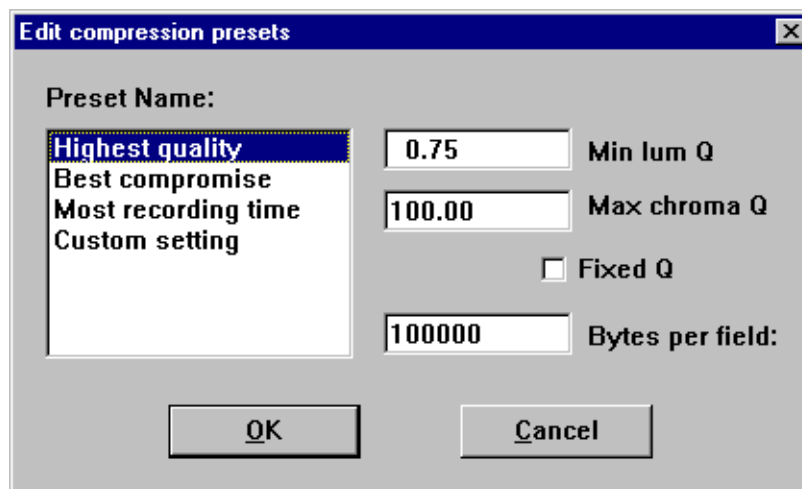

Figure 50. Edit Compression Presets dialog box
2. Edit the preset values, if necessary. Refer to Table 6 for the factory-set preset values. If you need to change the values, click **Edit Presets** to open the Edit Compression Presets dialog box shown in Figure 50.